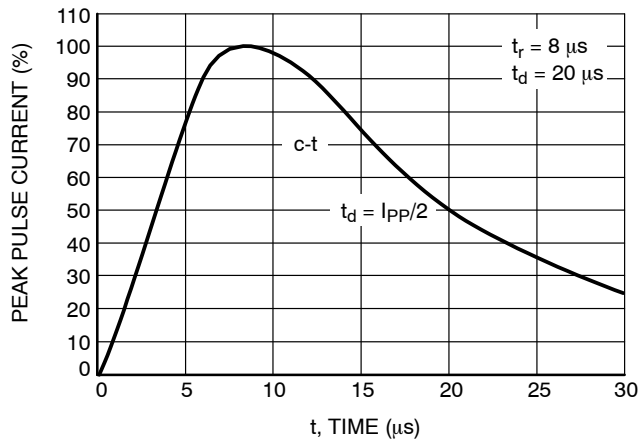

Figure 6. Pulse Waveform (8/20  $\mu\text{s}$ )
1. Non-repetitive current pulse per Figure 6.
| $V_C$      | Clamping Voltage8/20 $\mu\text{s}$ Waveform(See Figures 6–7) | IPP = 5 AIPP = 8 A                                                    | ––           | 3337             | 4044         | V        |
- Pulse waveform per Figure 6.